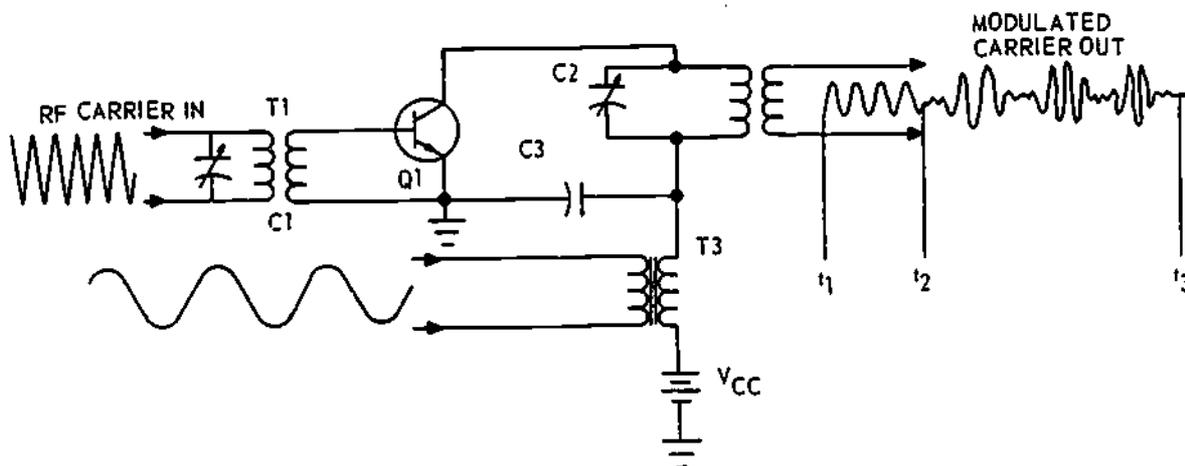

Figure 16. Simplified Circuit Using Amplitude Modulation
Figure 16 shows an RF amplifier stage with an audio modulating signal fed to the collector circuit. In this circuit, the carrier is applied to the base, and the collector voltage is varied at the modulating (audio) rate.
increases, the output of the RF amplifier increases, and when the emitter to collector voltage decreases, the output decreases. If you look at the waveforms from t2 to t3 (figure 16) you will see that the output of the amplifier increased on the positive half cycle of the modulating signal and decreased on the negative half cycle. Now look at the output RF waveform at t2 to t3 and note the amplitude variations resulting from the output of the amplifier increasing and decreasing.
The amplifier in figure 16 is being modulated 100%. Decreasing the amplitude of the modulating signal causes under modulation. Increasing the amplitude of the modulating signal would cause over modulation. The output modulated waveform at T2 is made up of the carrier frequency, the USB, and LSB.
**QUICK QUIZ 11, REFER TO FIGURE 16**